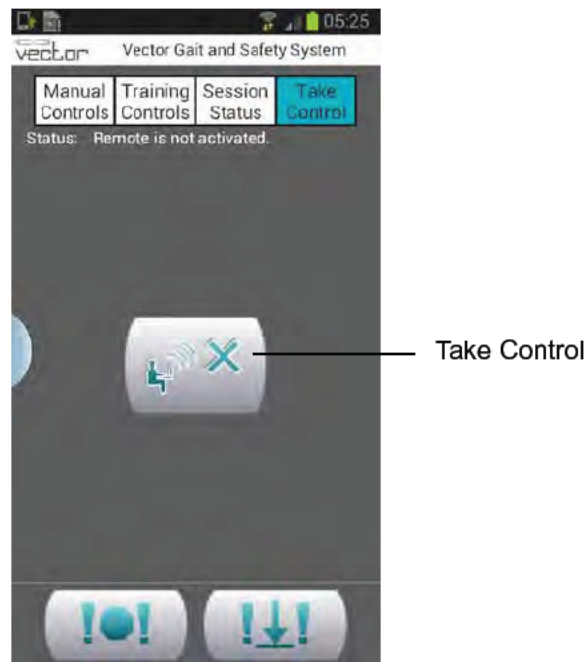

Figure 7-8: Take Control Button on the Remote Control
4. To transfer system control from the PC to the Remote Control, press the Take Control button from the Remote Control. See Figure 7-8.